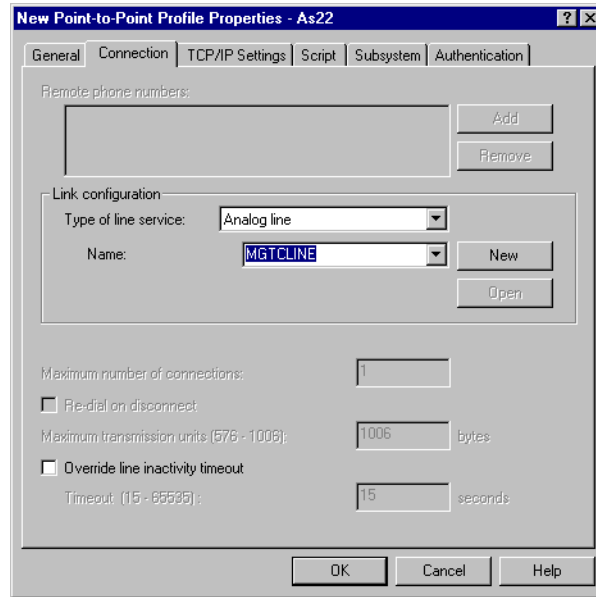

Figure 188. Creating a new PPP line for the connection
- a. In the **Connection** tab, as shown in Figure 188 on page 217, specify analog line for **type of line service**, and the line name for **Name**. Click **New**. Select the hardware adapter you are using.